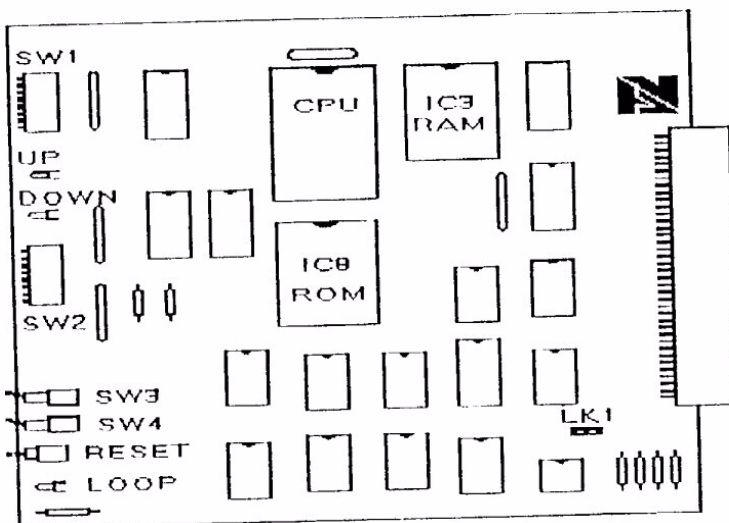

Figure 2. J6809 CPU Board
4. Fit the new EPROM ensuring that the notch is in the correct POSITION according to Figure 2 below.